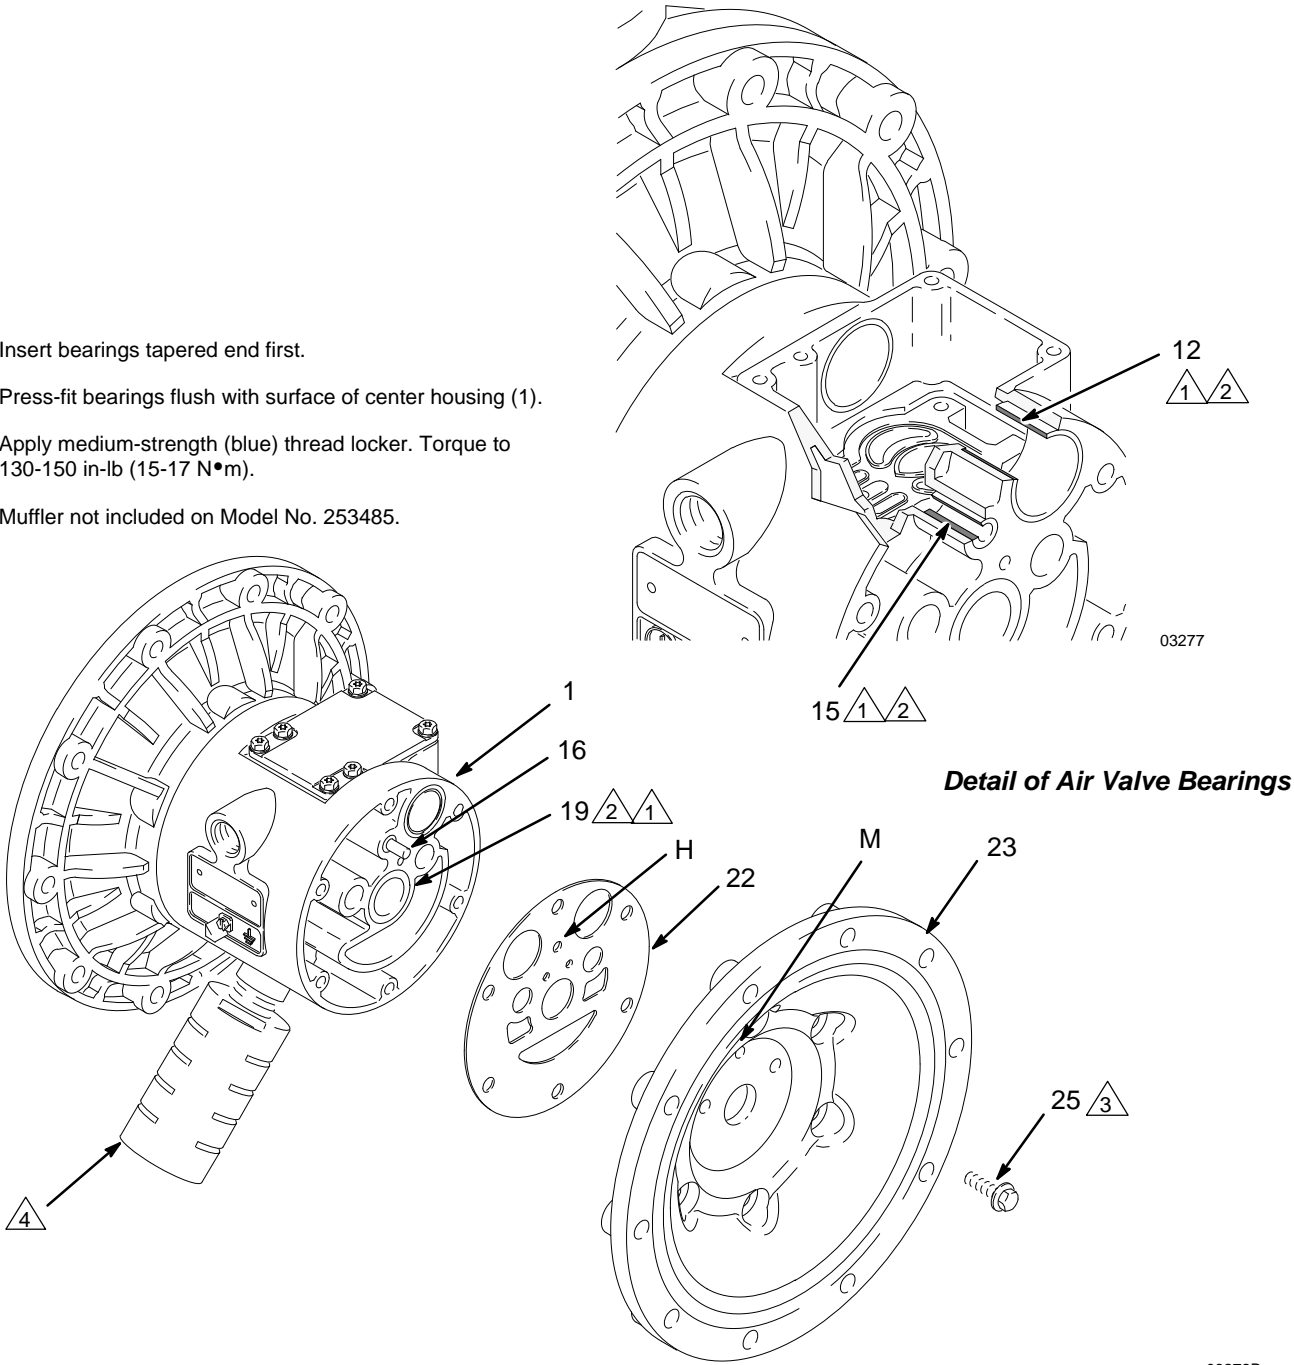

FIG. 13
- NOTE:** If you are removing only the diaphragm shaft bearing (19), skip step 4.
5. Using a 10 mm socket wrench, remove the screws (25) holding the air covers (23) to the center housing (1). See FIG. 13.
6. Remove the air cover gaskets (22). Always replace the gaskets with new ones.
7. Use a bearing puller to remove the diaphragm shaft bearings (19), air valve bearings (12) or pilot pin bearings (15). Do not remove undamaged bearings.
8. If you removed the diaphragm shaft bearings (19), reach into the center housing (1) with an o-ring pick
1. If removed, install the shaft u-cup packings (402\*) so the lips face **out** of the housing (1).
2. The bearings (12, 15, and 19) are tapered and can only be installed one way. Insert the bearings into the center housing (1), **tapered end first**. Using a press or a block and rubber mallet, press-fit the bearing so it is flush with the surface of the center housing.
4. Align the new air cover gasket (22) so the pilot pin (16) protruding from the center housing (1) fits through the proper hole (H) in the gasket.
5. Align the air cover (23) so the pilot pin (16) fits in the middle hole (M) of the three small holes near the center of the cover. Apply medium-strength (blue) thread locker to the threads of screws (25), and install the screws handtight. See FIG. 13. Using a 10 mm socket wrench, torque the screws oppositely and evenly to 130-150 in-lb (15-17 N•m).